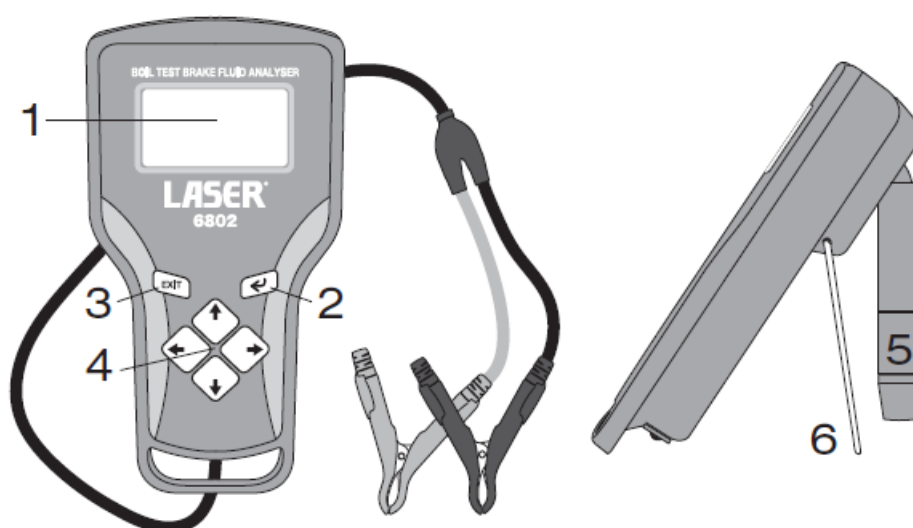

Fig 2
1. Refer to Figure 2: pull back the metal stand (6) and set up the instrument on a flat, level, and secure workplace within reach of the vehicle battery or another suitable 12V power source.
1. Refer to Figure 2: pull back the metal stand (6) and set up the instrument on a flat, level and secure workplace, within reach of the vehicle battery, or another suitable 12V power source.
6. Refer to Figure 2: use arrow keys (4) to select grade of brake fluid being tested (DOT 4, DOT5.1, etc). Refer to Figure 4B.